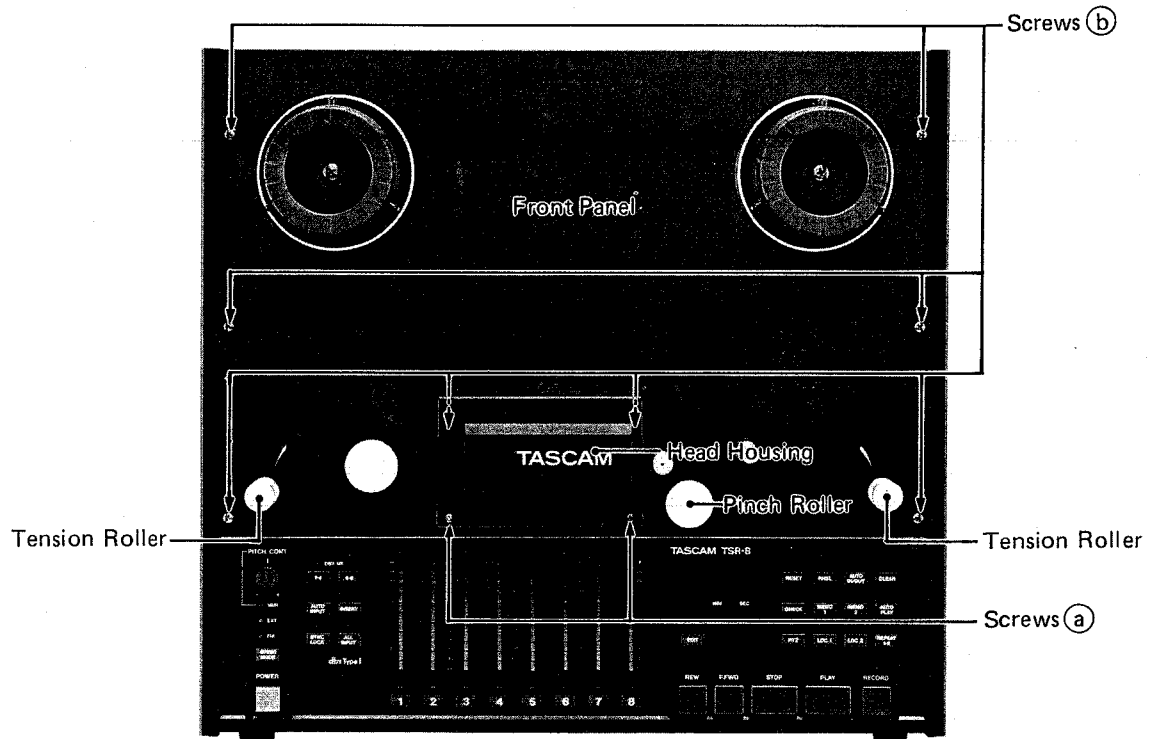

FIG. 7. FRONT VIEW
1. Remove the head housing by removing the two "a" screws (Fig. 7), then remove the pinch roller and tension roller by unscrewing their caps (counterclockwise rotation).